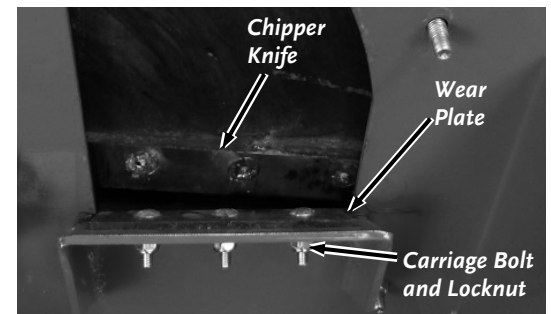

Figure 40
1. Remove the three Locknuts and Carriage Bolts that attach the Wear Plate to the Chipper Assembly with a 7/16" Wrench and then remove the Wear Plate (**Figure 40**).